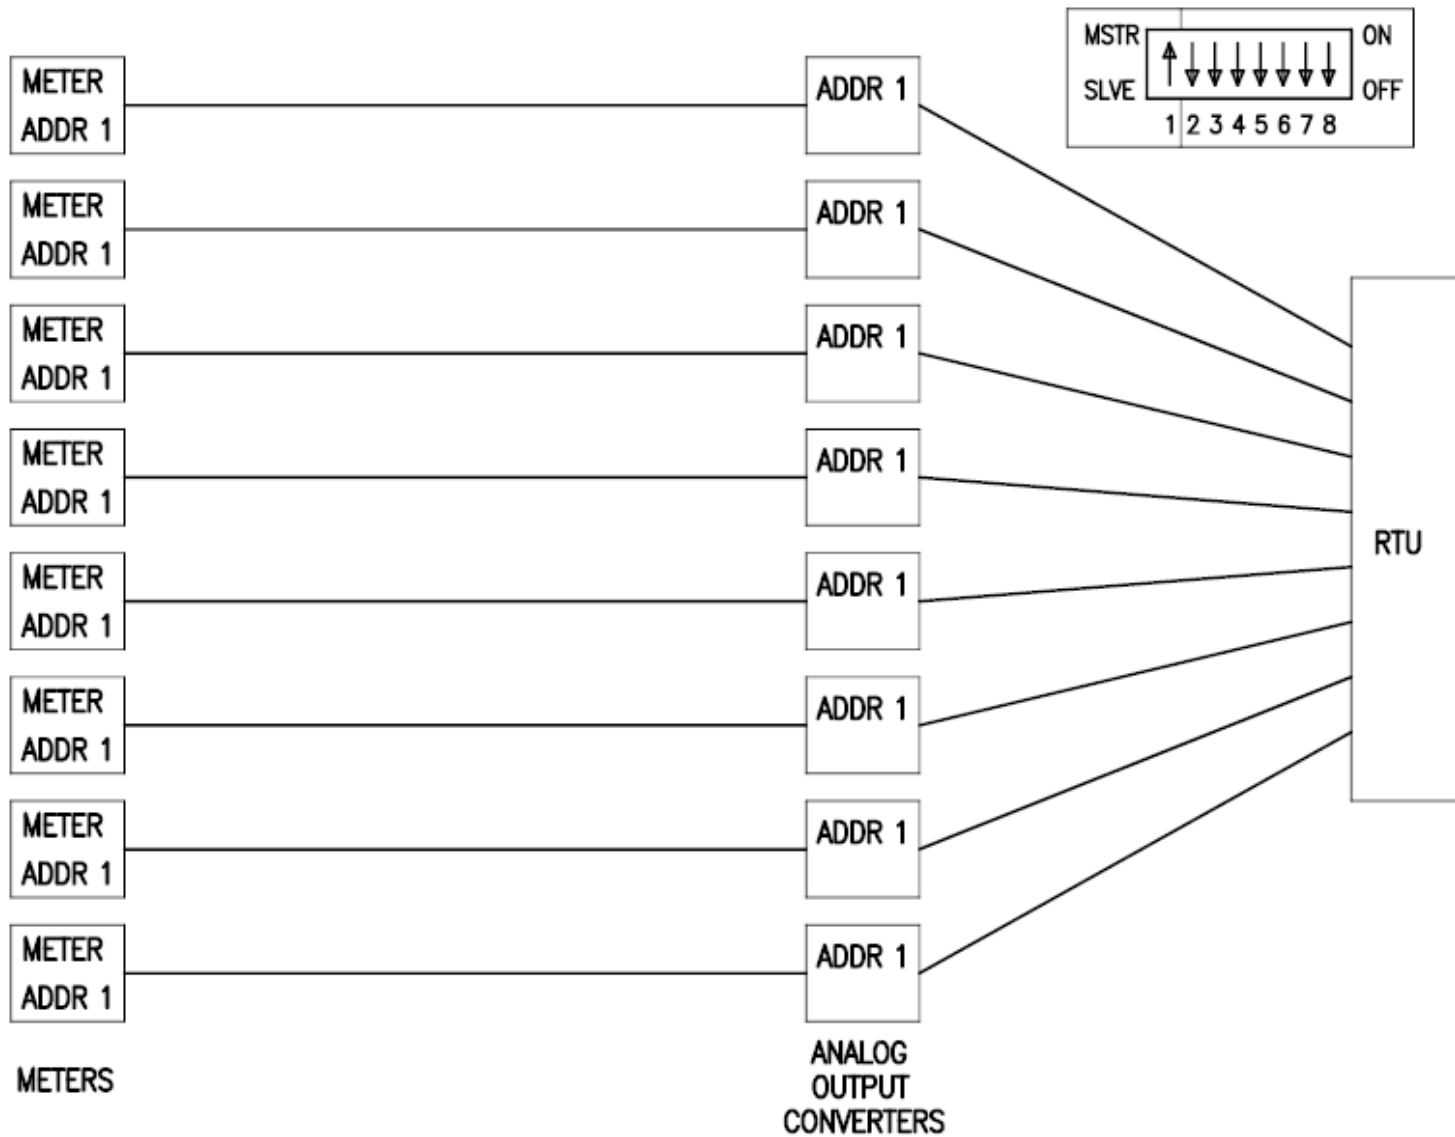

Figure 1 - Direct One-to-One Connection
For operation in this mode, locate SW1 on the front panel behind the clear window. SW1 switch 1 (MASTER) must be in the ON (upward) position, with the ACTIVE SLAVE(S) switches all in the OFF (downward) position. Figure 1 shows the connection concept and DIP switch settings. Set the MultiComm or PowerPlex address switch to 1. The front panel LED marked TXD will flash each time the AOC requests data from the meter/transducer, and the LED marked RXD will flash each time the AOC receives valid data from the meter/transducer.